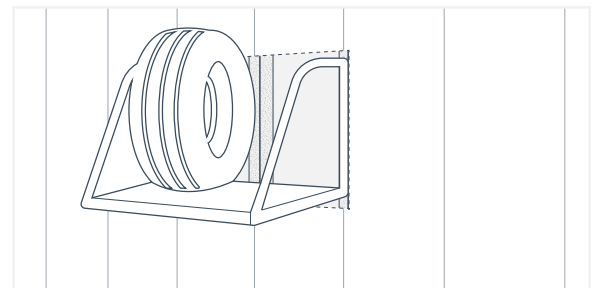

Fig. 52
3. Fit the mounting device in the cut-out portion and fasten to the supporting structure as per the mounting instructions provided with the device. (Fig. 52)